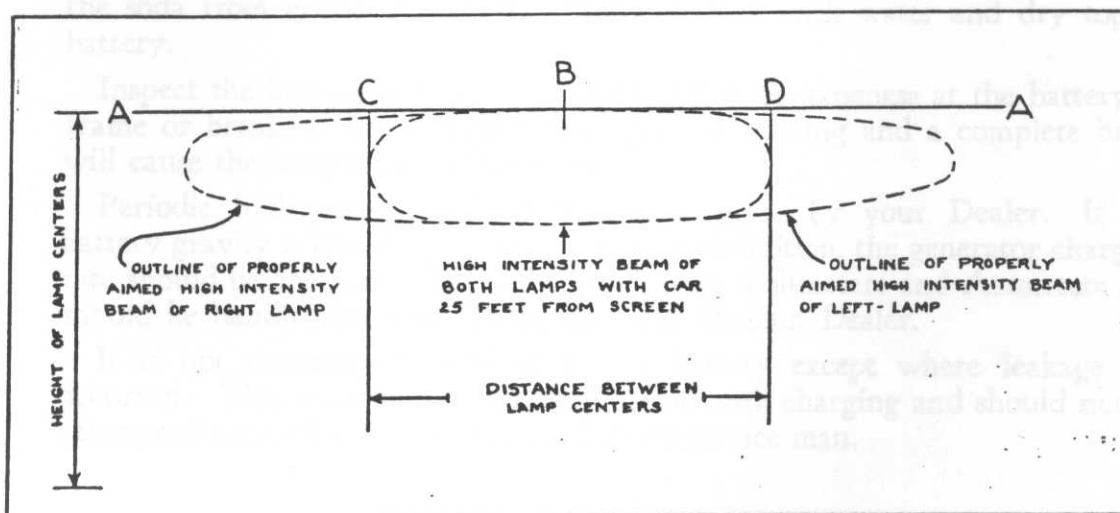

Figure 15
Place the car on a level floor or driveway, squarely in front of a white wall or screen, at a distance of twenty-five feet. Draw a horizontal line (AA), Figure 15, on the wall six feet long and at a height equal to the height of the center of the headlamps from the floor. Sight through the center of rear window and over the radiator ornament and determine the exact center line of the car projected on the wall as indicated at point (B) in the illustration. Measure one-half the distance between the centers of the headlamps to each side of point (B) and draw the vertical lines (C) and (D) through these points. These lines represent the vertical center lines of the lamps.